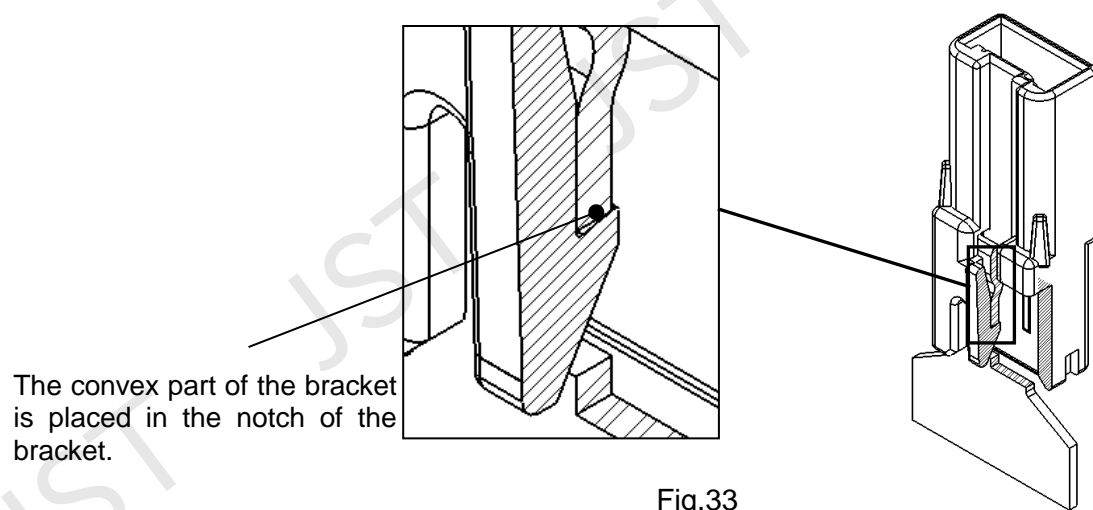

Fig.33
- ③ Insert the bracket until clicking and the operation completes at the condition of Fig.33.